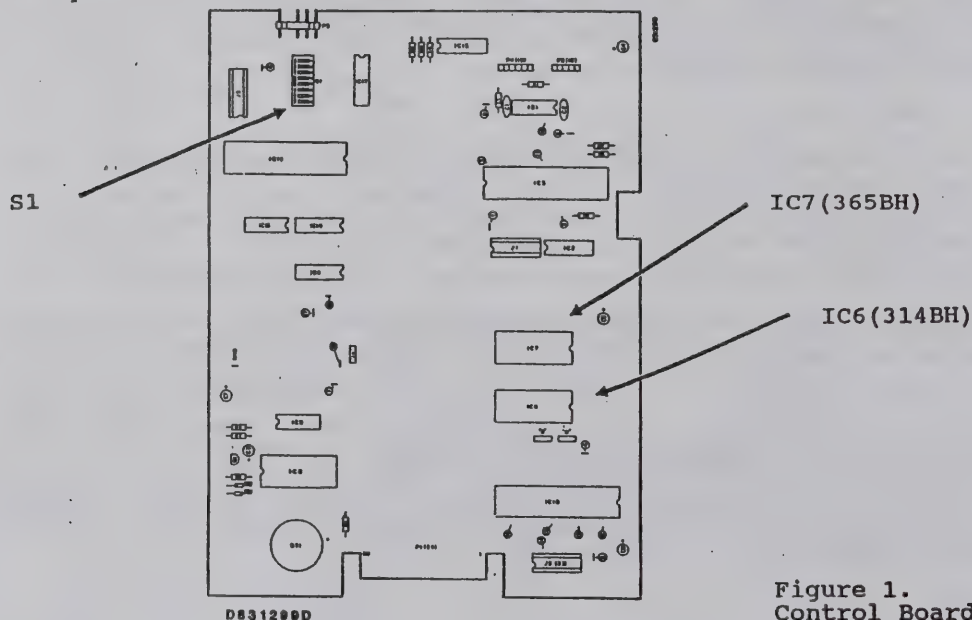

Figure 1.
- Refer to Figure 1. for the location of IC6 and IC7.